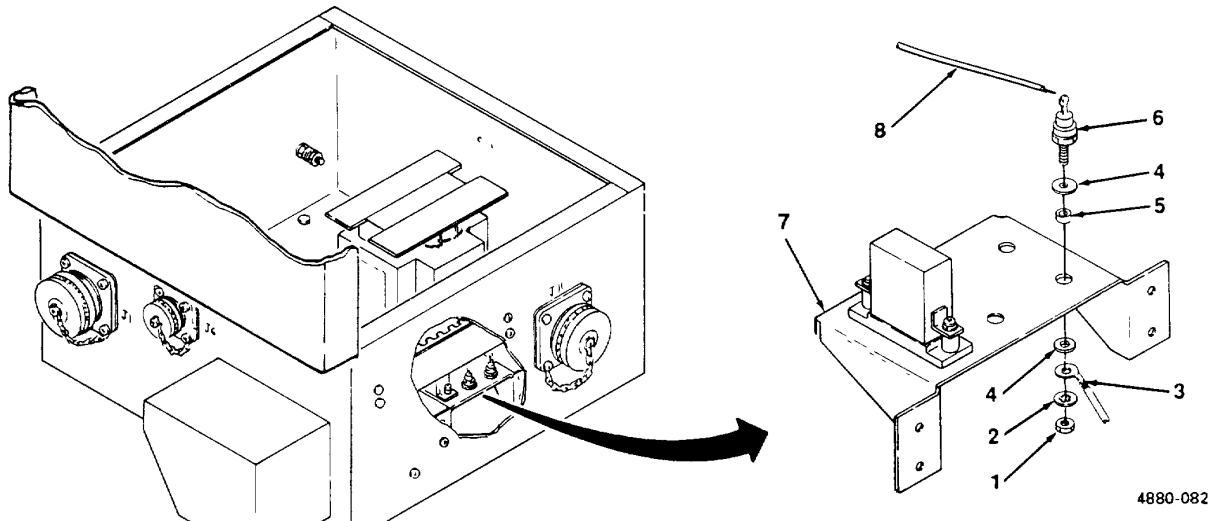

Figure 5-8. PDU Diode Replacement.
5-10. **PDU Diode Testing and Replacement.** (See figure 5-8) The PDU has four diodes. Testing and replacement procedures are the same for all four.
- (1) Release cover latch and open PDU cover.
- (2) Remove nut (1, figure 5-8), lockwasher (2), wire (3), two plastic flat washers (4), spacer (5) and diode (6) from bracket (7).
- (3) Touch positive multimeter probe to diode terminal and negative probe to diode base and measure resistance. Resistance should be high.
- (4) Reverse multimeter probe positions and measure resistance. Resistance should be low.
- (5) If multimeter readings were both low or both high in steps (3) and (4), replace diode.
- (6) Install one flat washer (4) and spacer (5) on diode (6). Insert diode into its mounting hole in bracket (7) and install second flat washer (4), wire (3), lockwasher (2) and nut (1).
- (7) Close and latch PDU cover.